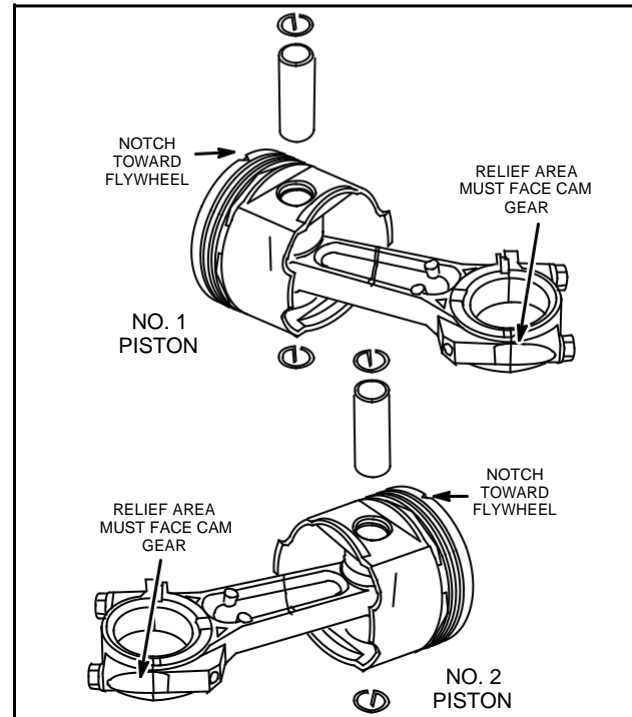

Fig. 10 – Model 462770 Connecting Rod
**Engine Model 462770:** Assemble connecting rods to pistons with notches in pistons facing flywheel side and relief area on crankpin end of rod and oil hole facing cam gear, Fig. 10.